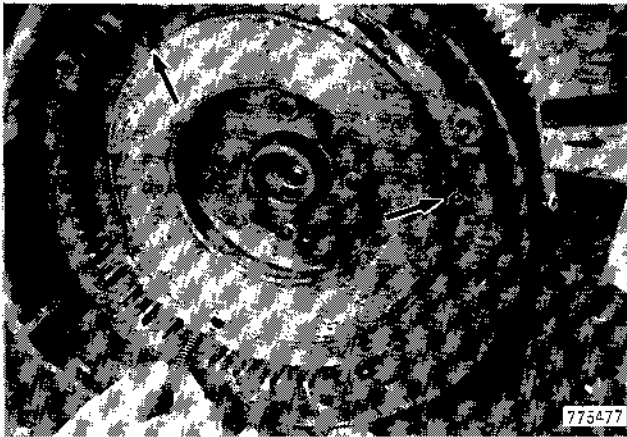

Figure 110
15. Put the three springs in the holes in the flywheel, Figure 110.